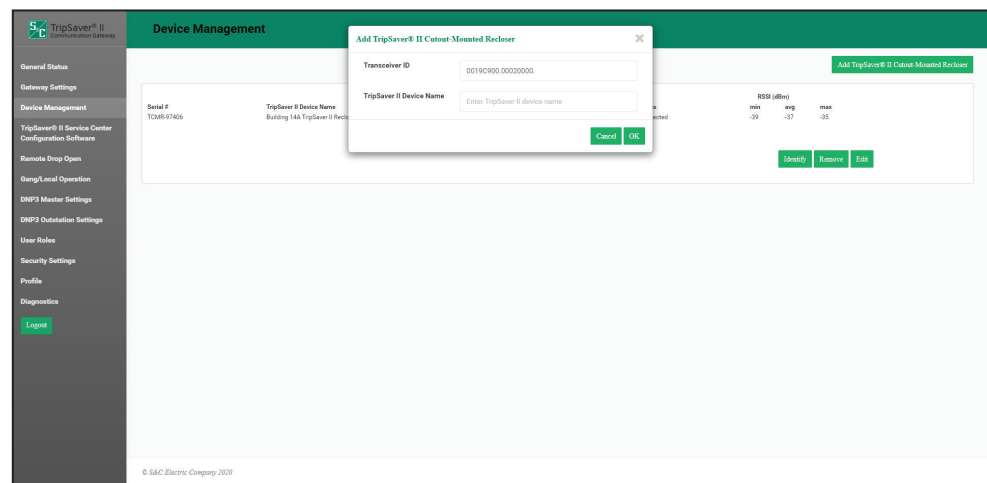

Figure 10. The *Device Management* screen.
STEP 4. Navigate to the *Device Management* screen. See Figure 10.